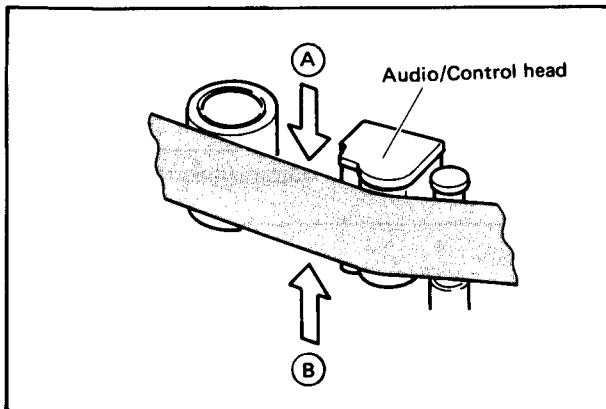

Fig. 4-53 Audio head height check
3. Check that the audio output level increase does not exceed 0.5 dB as the tape is lightly pressed down at point (A) as shown in Fig. 4-53.
4. In the same manner, check that the audio CH-2 level increase does not exceed 0.5 dB as the tape is lightly pushed up at point (B) as shown in Fig. 4-53.